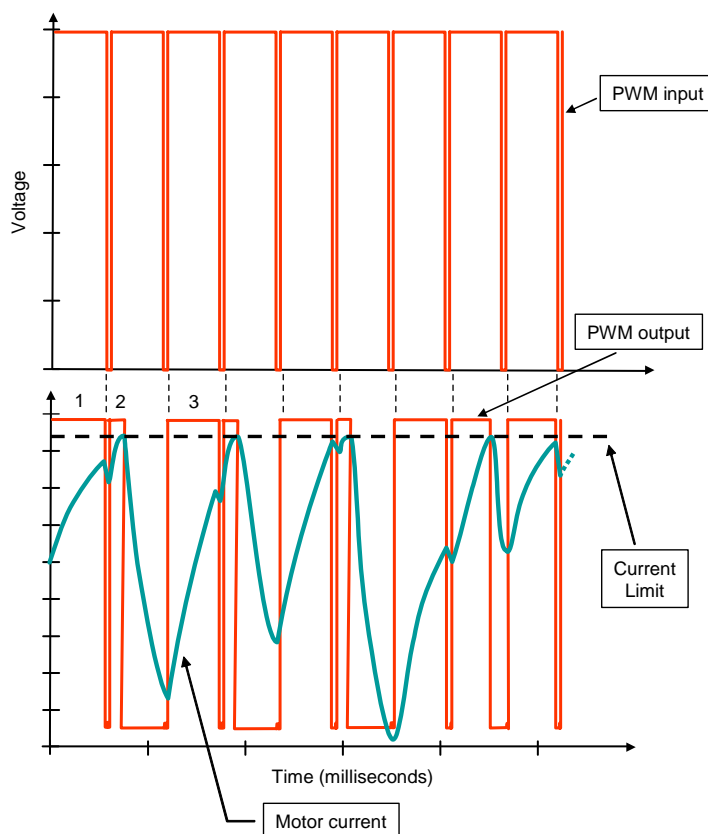

Figure 4. Cycle by Cycle Current Limit
Shown along the top of Figure 4 is the cycle-by-cycle behavior of the PWM pulse train applied to the SA306-IHZ by the microcontroller. The motor current is shown in blue at the bottom of the illustration. Outlined in red, and superimposed over the current waveform, is the actual PWM pulse train ('PWM output') delivered by the FETs which has, in effect, been modulated by the current flow. It shuts off the output pulse should the current exceed the 'current limit' set externally by the user.
**Disabling Circuitry** – If the voltage applied to the plus terminal of comparator U6 exceeds the current limit threshold voltage ( $V_{th}$ ), all three outputs OUT A, OUT B and OUT C are disabled. The disabling path is via gates U7 and U8 and gates U12 and U13. Once the voltage applied to Comparator U6 falls below the  $V_{th}$  threshold voltage, and the disabled top side input to the gate control goes low, the output stage will return to an active state on the rising edge of any top side input command signal (At, Bt, or Ct). Note that the corresponding disable signals from phases B and C are also applied via gate U7 and their behavior is exactly the same as is the case for OUT A. Also the ILIM/DIS1 goes HIGH when any of the three current sense circuits detects an overcurrent situation. The cycle-by-cycle current limit feature of the SA306-IHZ will reset each PWM cycle. Thus the PEAK current is limited in each phase during each PWM cycle, as illustrated in Figure 4. Notice also that the moment at which the current sense signal exceeds the  $V_{th}$  threshold is asynchronous with respect to the input PWM signal because this event is governed by the intersection of the rising current with the current limit – not the PWM duty cycle. The difference between the PWM period and the motor winding L/R time constant will often result in an audible beat frequency sometimes called a ‘sub-cycle oscillation’. This oscillation can be viewed with an oscilloscope by applying a probe to pin 7,  $I_{LIM}/DIS1$ .